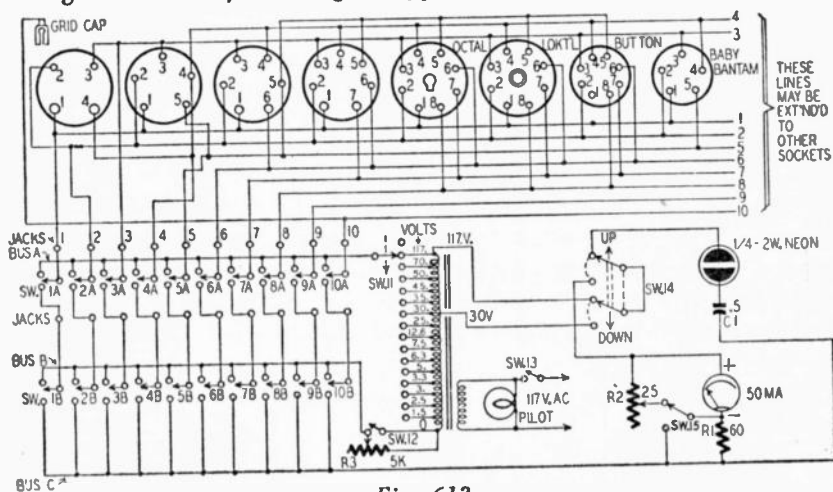

Fig. 613
A. Fig. 613 is a complete diagram of a tube checker showing the connections for all commonly used sockets and for all switches.